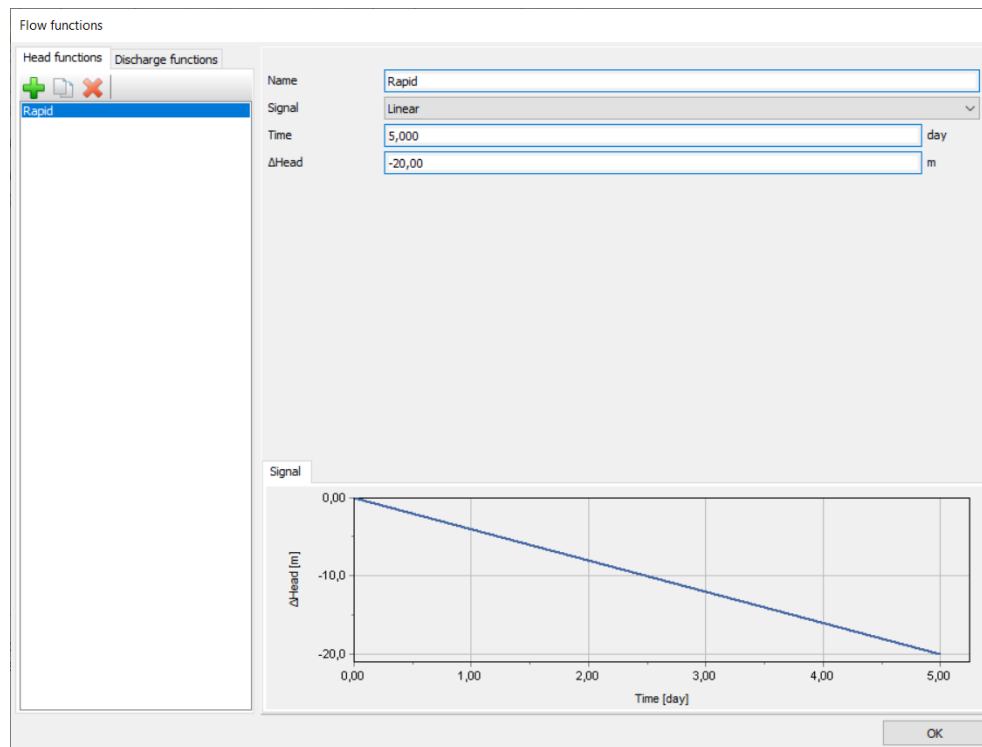

Figure 117: The flow function for the rapid drawdown case
- d. Specify a time interval of 5 days. Figure 117 (on page 143) shows the defined function.